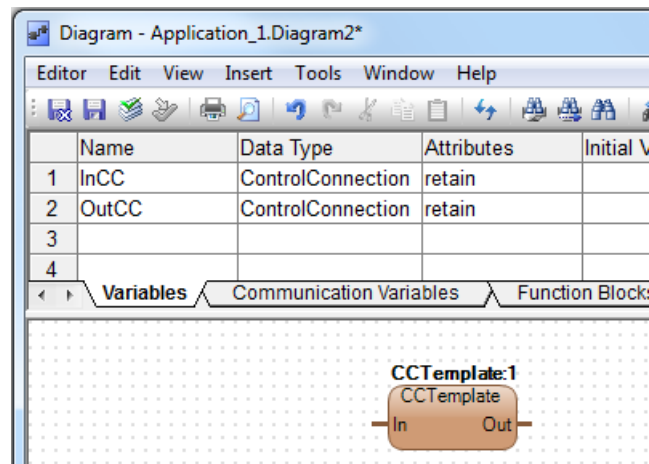

Figure 38. CCTemplate inserted in the graphical code block
- c. Click **Insert**. The CCTemplate control module is inserted as shown in Figure 38.